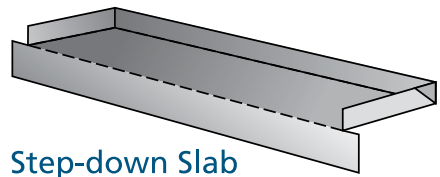

Fig. 5 Finished sill pan for step down landing
- For door with step-down landing: fold down at remaining crease line (**Fig. 5**).